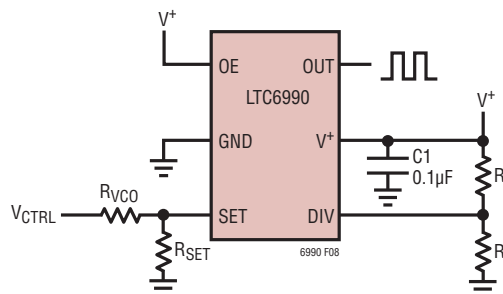
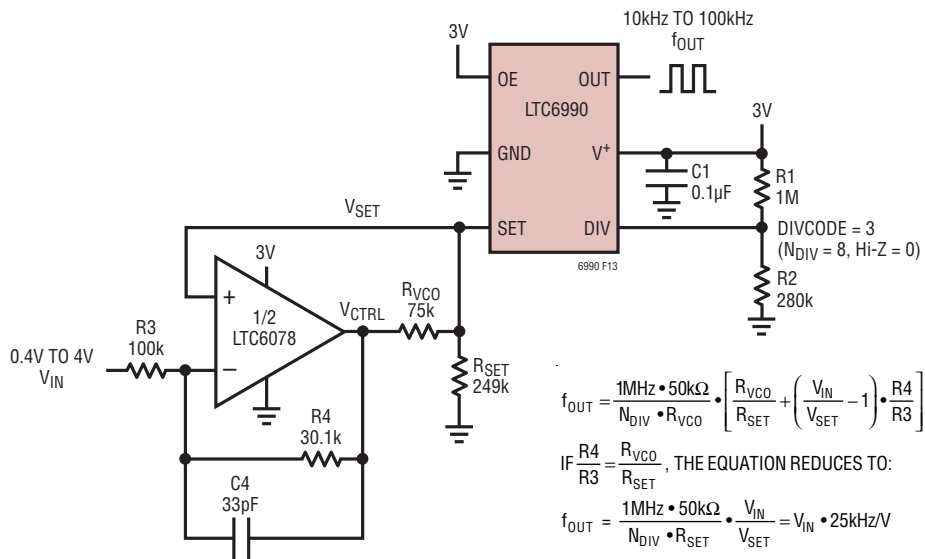

Figure 11. Voltage Controlled Oscillator
Figure 13. VCO with Reduced  $\Delta V_{SET}$  Sensitivity
Operating the LTC6990 as a voltage-controlled oscillator in its simplest form is achieved with one additional resistor. As shown in Figure 11, voltage  $V_{CTRL}$  sources/sinks a current through  $R_{VCO}$  to vary the  $I_{SET}$  current, which in turn modulates the output frequency as described in Equation (2).
For wide frequency range applications, the non-inverting VCO circuit shown in Figure 13 is preferred because the maximum frequency error occurs when the frequency is highest, keeping the relative error (in percent) much smaller.
Depending on the application's requirements, the non-inverting VCO circuit in Figure 13 may be preferred for this wide of a frequency variation as its maximum inaccuracy due to  $V_{SET}$  error is only  $\pm 9\%$  and can be reduced to only  $\pm 3\%$  with a small change to the voltage tuning range specification.
Figure 13 shows a VCO that reduces the effect of  $\Delta V_{SET}$  by adding an op-amp to make  $V_{CTRL}$  dependent on  $V_{SET}$ . This circuit also has a positive transfer function (the output frequency increases as  $V_{IN}$  increases). Furthermore, for positive  $V_{IN}$  voltages, this circuit places the greatest absolute frequency error at the highest output frequency. Compared to the simple VCO circuit of Figure 11, the absolute frequency error is unchanged. However, with
Figure 13 shows a design similar to the previous design example where the  $V_{MIN}$  voltage is now specified to be 0.4V. This satisfies the  $V_{MAX}/V_{MIN} \geq f_{MAX}/f_{MIN}$  condition and the design assures that the output frequency error due to  $V_{SET}$  variation is only  $\pm 3\%$ .